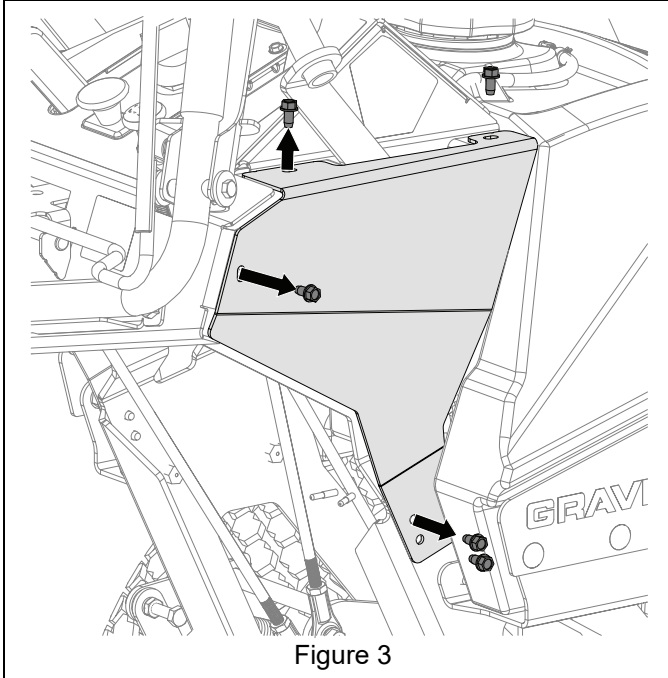

Figure 3
4. Remove and retain five 1/4" x 1/2" tapping screws retaining right side cover and remove cover. See Figure 3.